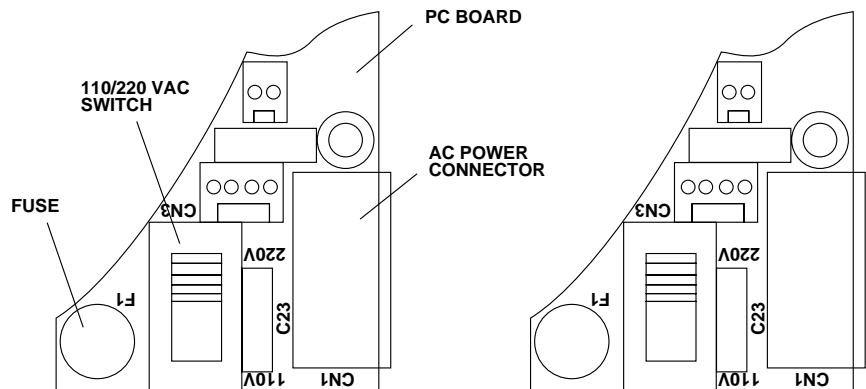

Figure 4 - INPUT VOLTAGE SWITCH
5. Disconnect the two sets of wires connecting the heat sink/transformer assembly to the chassis/PC board. The 110/220 Vac SWITCH is located on the PC board, near the ac power connector. See Figure 4.
7. Place the voltage selector switch in the correct position according to the labels on the printed circuit board near the switch. See the Figure 4.